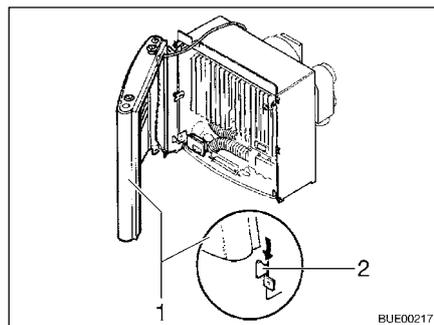

Fig. 119 Heater cover, retaining clips
- Mount the heater cover. To do this, place the cover (Fig. 119,1) on the lower retaining clips (Fig. 119,2).